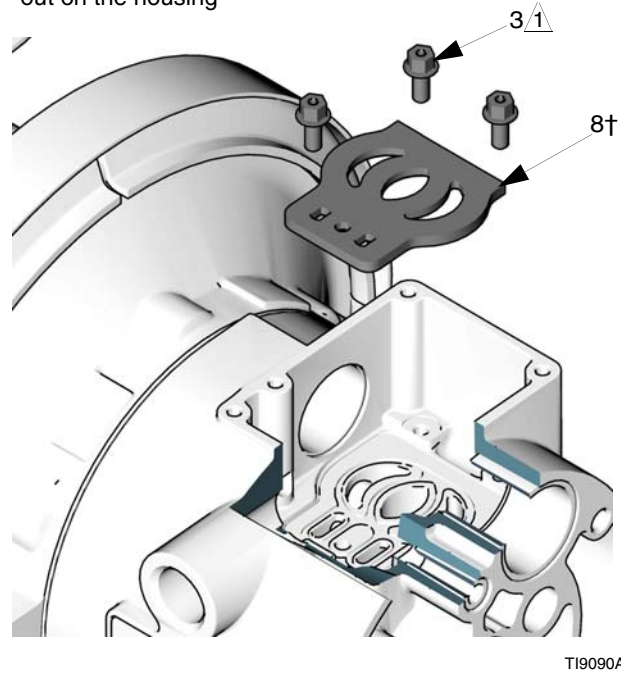

FIG. 8
5. Inspect the valve plate (8) in place. If damaged, use a Torx (T20) screwdriver or 7 mm (9/32 in.) socket wrench to remove the three screws (3). Remove the valve plate (8). See FIG. 8.
2. Install the valve plate (8) in the cavity, seal down. Install the three screws (3), using a Torx (T20) screwdriver or 7 mm (9/32 in.) socket wrench. Tighten until the screws bottom out on the housing. See FIG. 8.